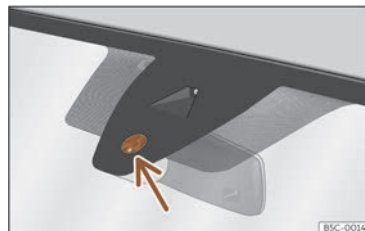

Fig. 105 Rain sensor sensitive surface
The possible causes of anomalies and erroneous interpretations *in the sensitive surface area* >>> Fig. 105 of the rain sensor are, among others:
- **Dirt:** dry dust, wax, coating on glass (Lotus effect) or traces of detergent (car wash) may reduce the effectiveness of the rain sensor or make it react more slowly, later or not at all. Regularly clean the sensitive surface of the rain sensor >>> Fig. 105 (arrow) and check for possible damage to the wiper blades.